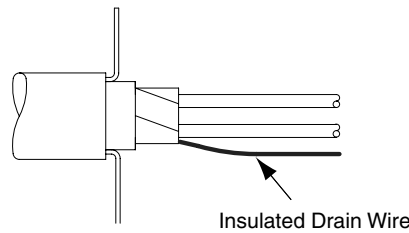

Fig. 5
- 3.4. Spray or paint the drain wires with insulating varnish or paint, then leave to dry (See Fig. 5)